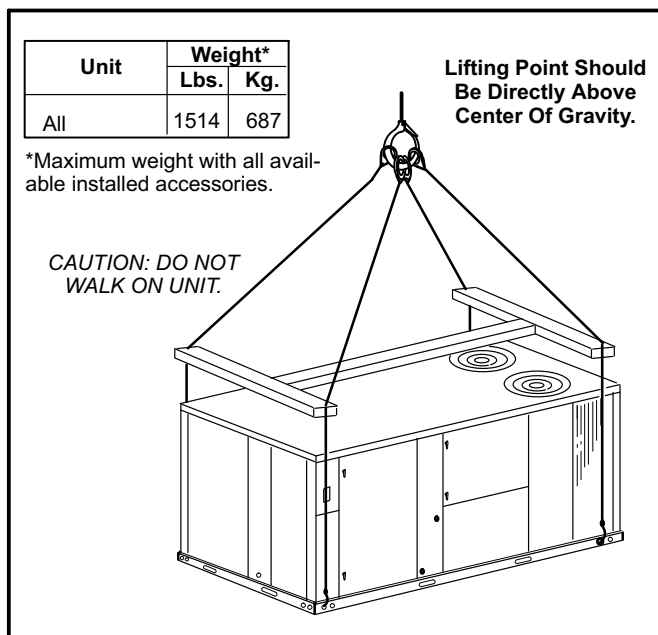

FIGURE 2
- 2- Connect rigging to the unit base using both holes in each corner. See figure 2.